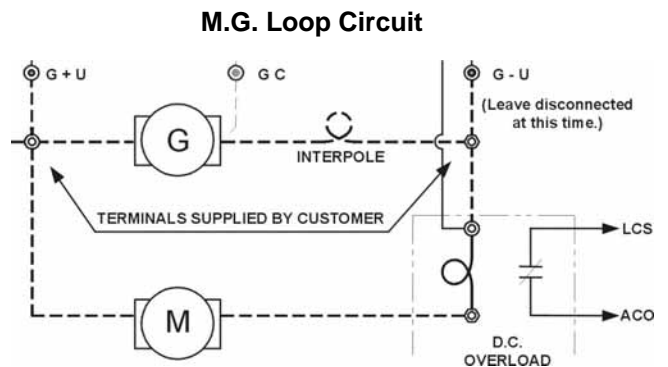

Figure 1-13
- The second circuit is for the Motor Loop, which consists of current conductors wired from the controller to the generator armature. [See Figure 1-13.]